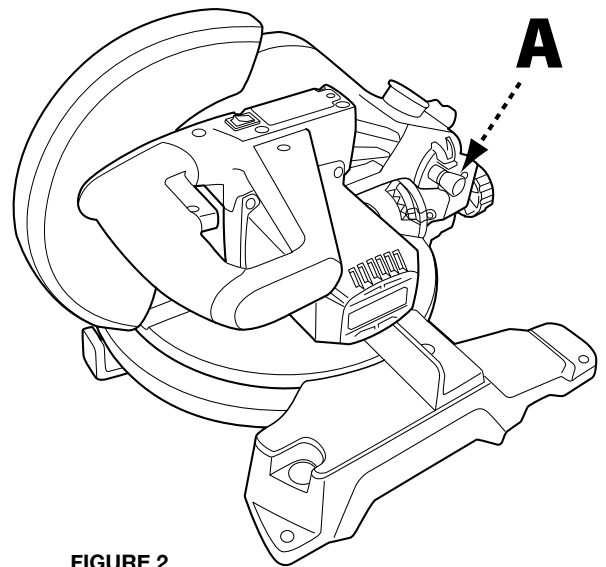

FIGURE 2
1. The saw is shipped with the arm secured in the down position as shown in Figure 2. To release the arm, push it down, cut the plastic tie and release the lock pin (A).